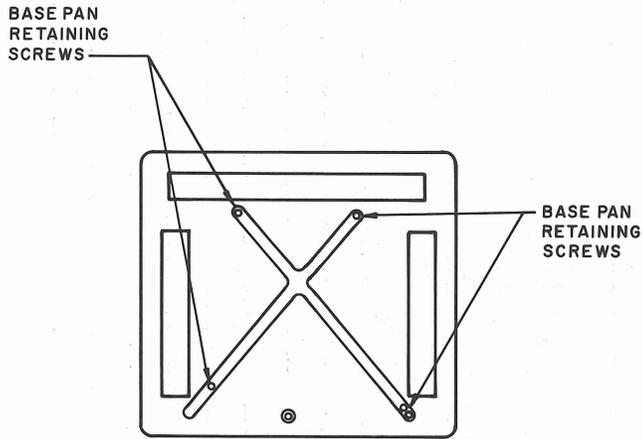

Fig. 3—Underside of Data Auxiliary Set 801A-Type Base Pan
- (c) Turn ACU upside down on a flat surface to expose underside of base pan (Fig. 3).
- (d) Remove the four base pan retaining screws (Fig. 3).